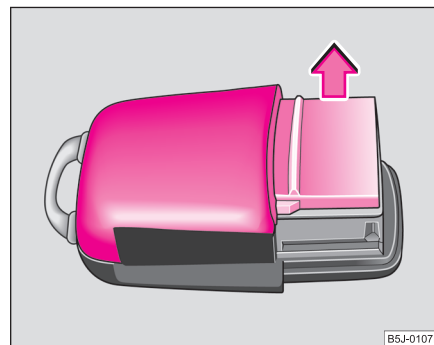

Fig. 20 Cover of the transmitter housing
- Take off the cover of the transmitter housing ⇒ page 39, fig. 20 in direction of arrow.